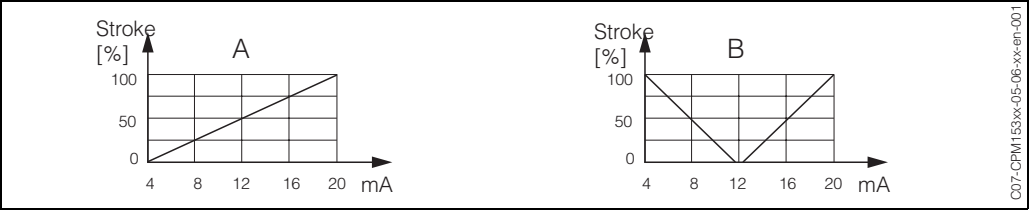

fig. 25: A: Stroke diagram for a control valve
- With a two-sided process, the complete actuating variable range from -100% ... +100% is represented on the given current range. An actuating variable of 0% leads to a current of 10 mA (at 0 ... 20 mA) or 12 mA (at 4 ... 20 mA), (see fig. 25).